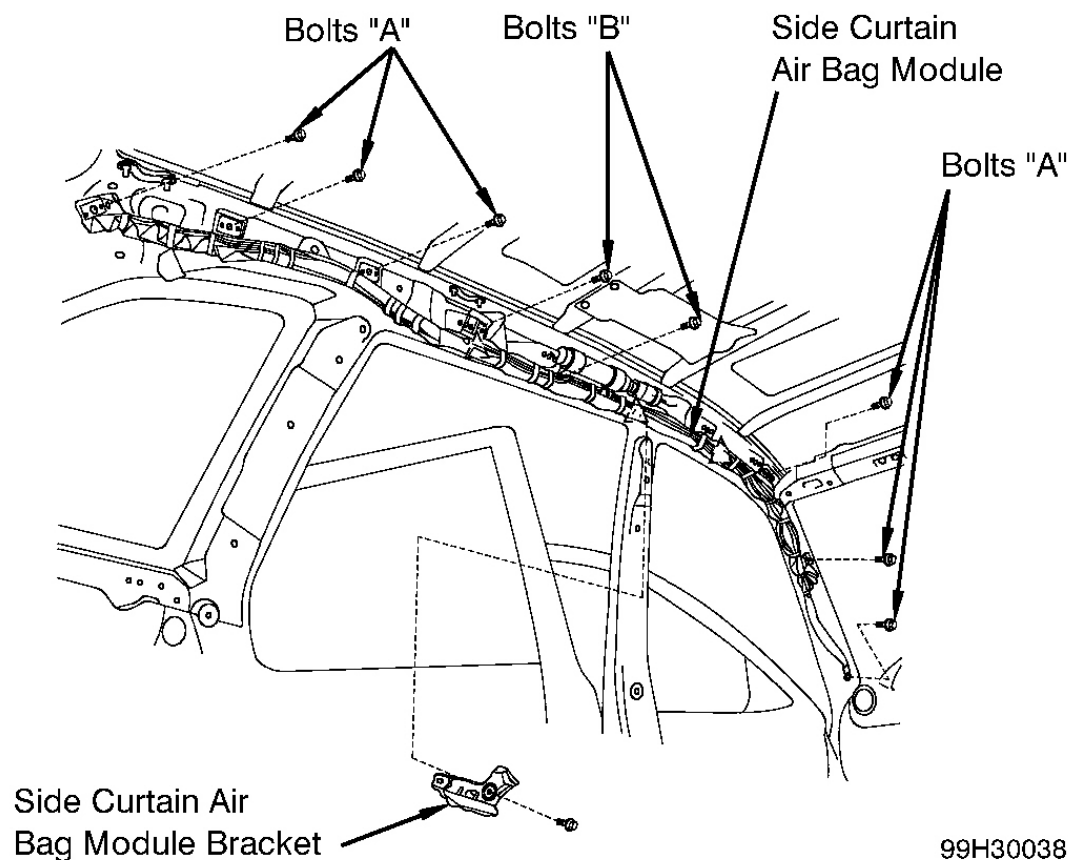

Fig. 16: Identifying Side Curtain Air Bag Module
2. Remove headliner. See **HEADLINER** . Remove bolts "A". See **Fig. 16** . Bind front and rear sections of curtain air bag to center section. Remove bolts "B" and curtain air bag module. Remove bolt and curtain air bag module bracket. Place air bag module in plastic bag and store in safe place, if reusing air bag module.